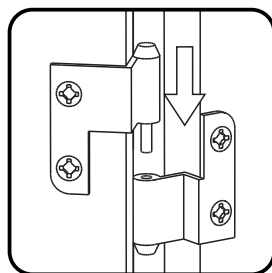

Figure 8
Attach Doors (R) and (S) by sliding door hinges into side panel hinges. (See Figure 8)